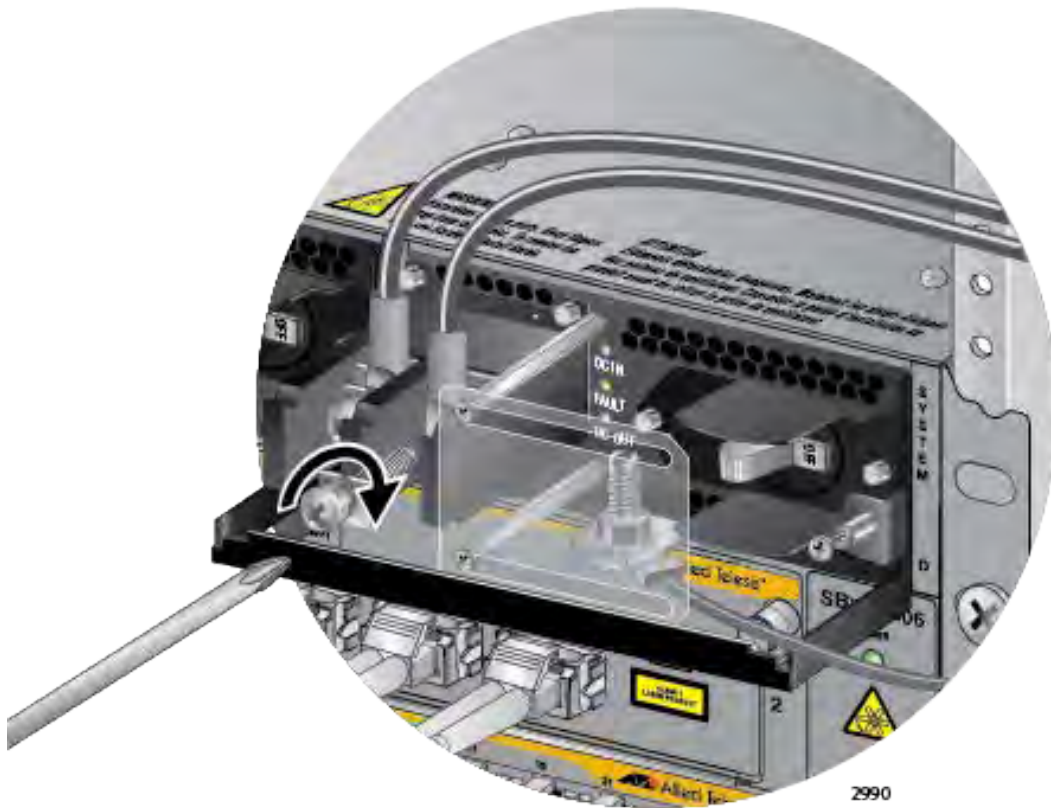

Figure 141. Connecting the Negative (-) Power Wire with a Straight Terminal
7. With a #3 Phillips-head screwdriver, connect the negative (-) power lead wire to the negative terminal on the power supply, with the remaining terminal screw removed in step 5. The negative terminal is on the right. You may attach the terminals with the wires either above or below the terminal block. Figure 141 on page 218 shows the wires above the terminal block.